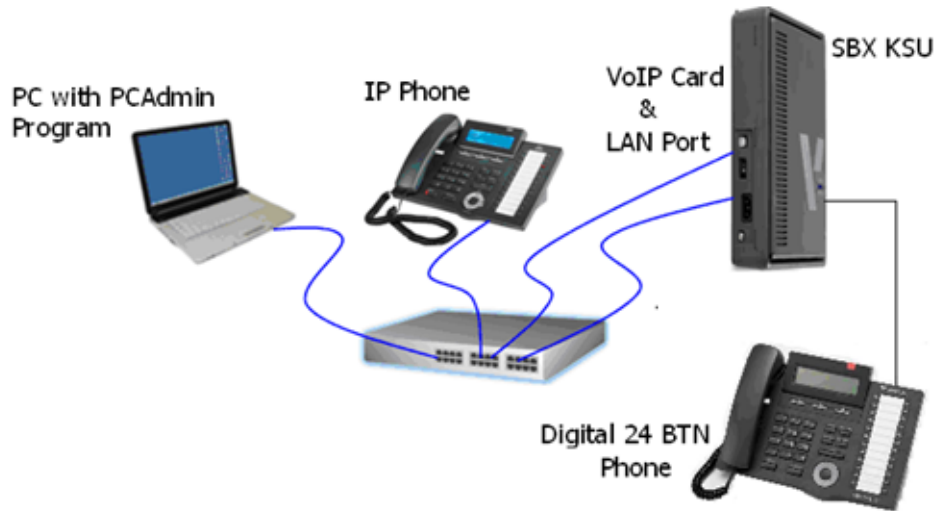

Figure 5-10 System Setup
- For a typical test-bench or demonstration setup, you need 4 connections to a LAN switch, each via a straight-through CAT5E patch cord as shown in Figure 5-10.